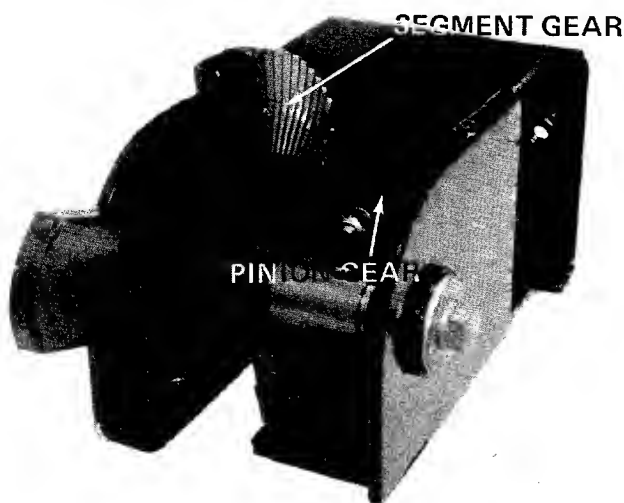

FIGURE 13.
**STEERING GEARS**—Wipe off the old grease and dirt. After every 25 hours of operation place an automotive multi-purpose grease in the teeth of the segment and pinion gears. See figure 13.